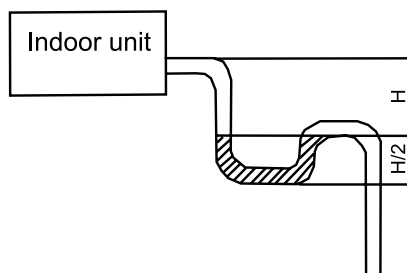

Figure 3-1-52
- (4). When the drain hose cannot keep a sufficient gradient, it is necessary to fit a riser pipe (field supplied) to it.
- (5). If the air flow of indoor unit is high, this might cause negative pressure and result in return suction of outdoor air. Therefore, U-type water trap shall be designed on the drainage side of each indoor unit. (Figure 3-1-52)
- (6). Install one water trap for each unit.
- (7). Installation of water trap shall consider easy cleaning in the future.